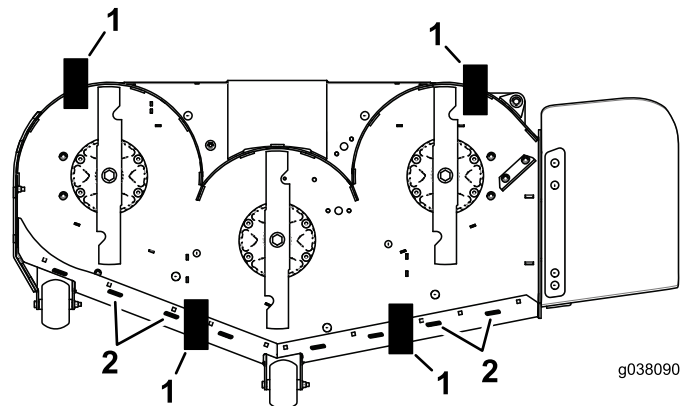

Figure 101
11. Place 2 blocks (see Block Height and Rake Table) under the rear edge of the cutting deck skirt; 1 on each side of the cutting deck (Figure 101).